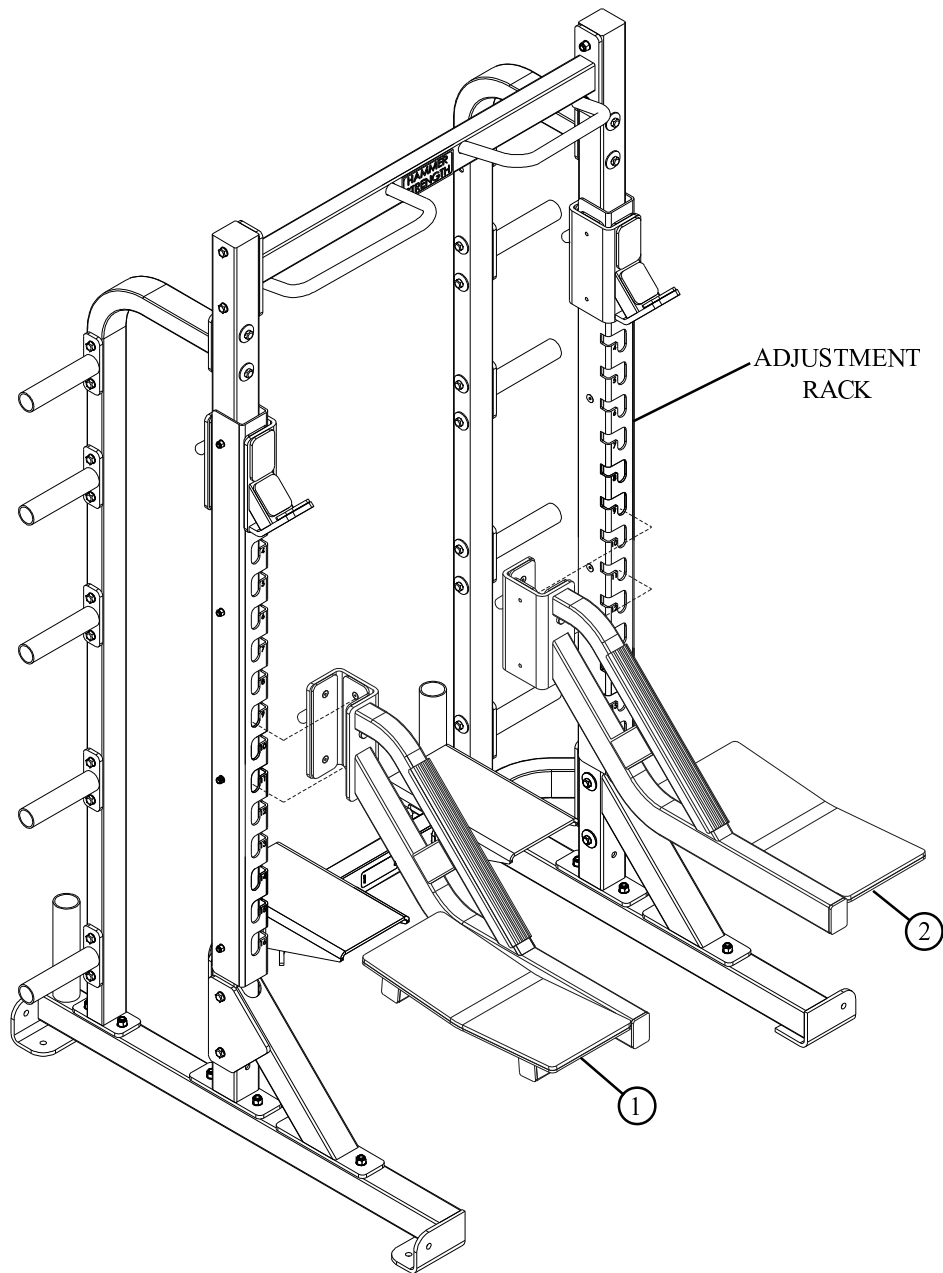

FIGURE 1
- Insert the LEFT TECHNIQUE TRAY (1) into the desired slots of the LEFT ADJUSTMENT RACK, and allow it to drop down to lock in place. See FIGURE 1.
- Repeat the above step to assemble the RIGHT TECHNIQUE TRAY (2) to the RIGHT ADJUSTMENT RACK.